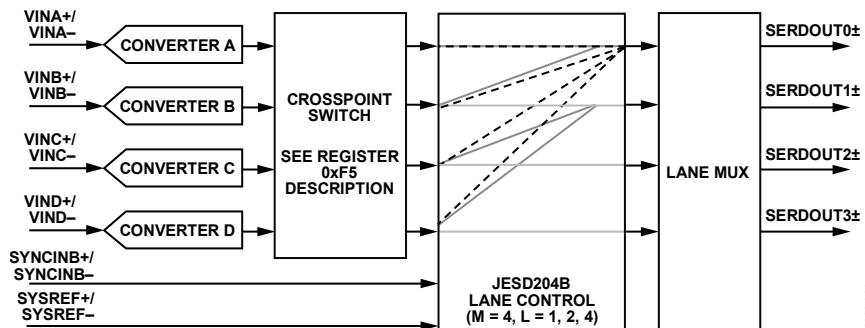

Figure 68. AD9656 Transmit Link Simplified Conceptual Block Diagram
- Option to remap converter (logical lane) and SERDOUT $x\pm$  (physical lane) assignments: Register 0x82 and Register 0x83. See Figure 68 for a simplified conceptual block diagram.